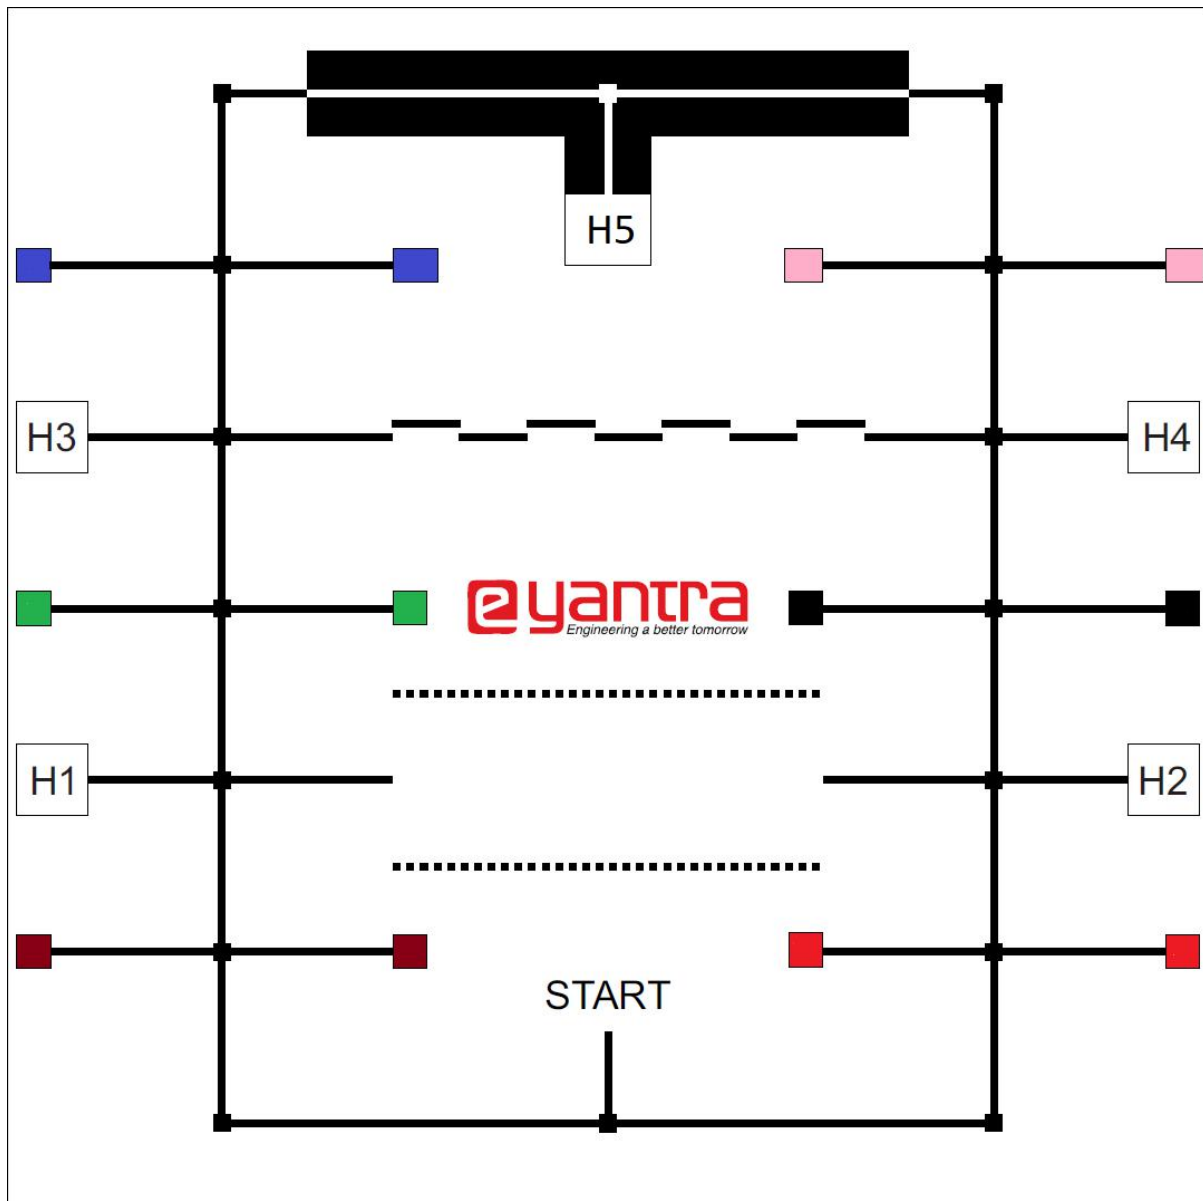

Figure 1: Arena
A) **Construction Materials (CM)**: The materials that will be picked by the robot for construction.
B) **Warehouse (W)**: The zone where the robot picks the Construction Materials from. There are total twelve (12) Warehouses in the arena represented as W1, W2, .....W12 as shown in Figure 1.
- Brick (B) - represented as Brown color block in the arena and available only in W1 and W2.
- Gravel (G)- represented as Green color block in the arena and available only in W3 and W4.
- Cement (C)- represented as Blue color block in the arena and available only in W5 and W6.
- Sand (S)- represented as Red color block in the arena and available only in W7 and W8.
- Electrical fittings (E)-represented as Black color block in the arena and available only in W9 and W10.
- Painting (P) - represented as Pink color block in the arena and available only in W11 and W12.
C) **House (H)**: The zone where the robot places the picked Construction Materials to. There are five Houses in the arena - H1, H2, H3, H4 and H5 as shown in Figure 1.
1. The location of Construction Materials in their respective Warehouses will always remain fixed as given in the Figure 1.
2. One House can require minimum of zero (0) CM and maximum two (2) CM.